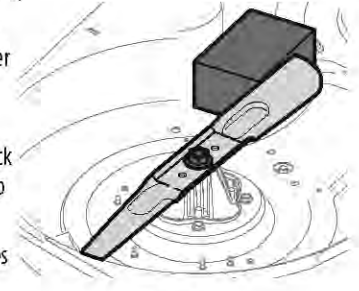

Figure 48
2. Place a block of wood between the deck housing baffle and the cutting blade to act as a stabilizer. See Figure 48.
3. Place a block of wood between the deck housing baffle and the cutting blade to act as a stabilizer. See Figure 48.